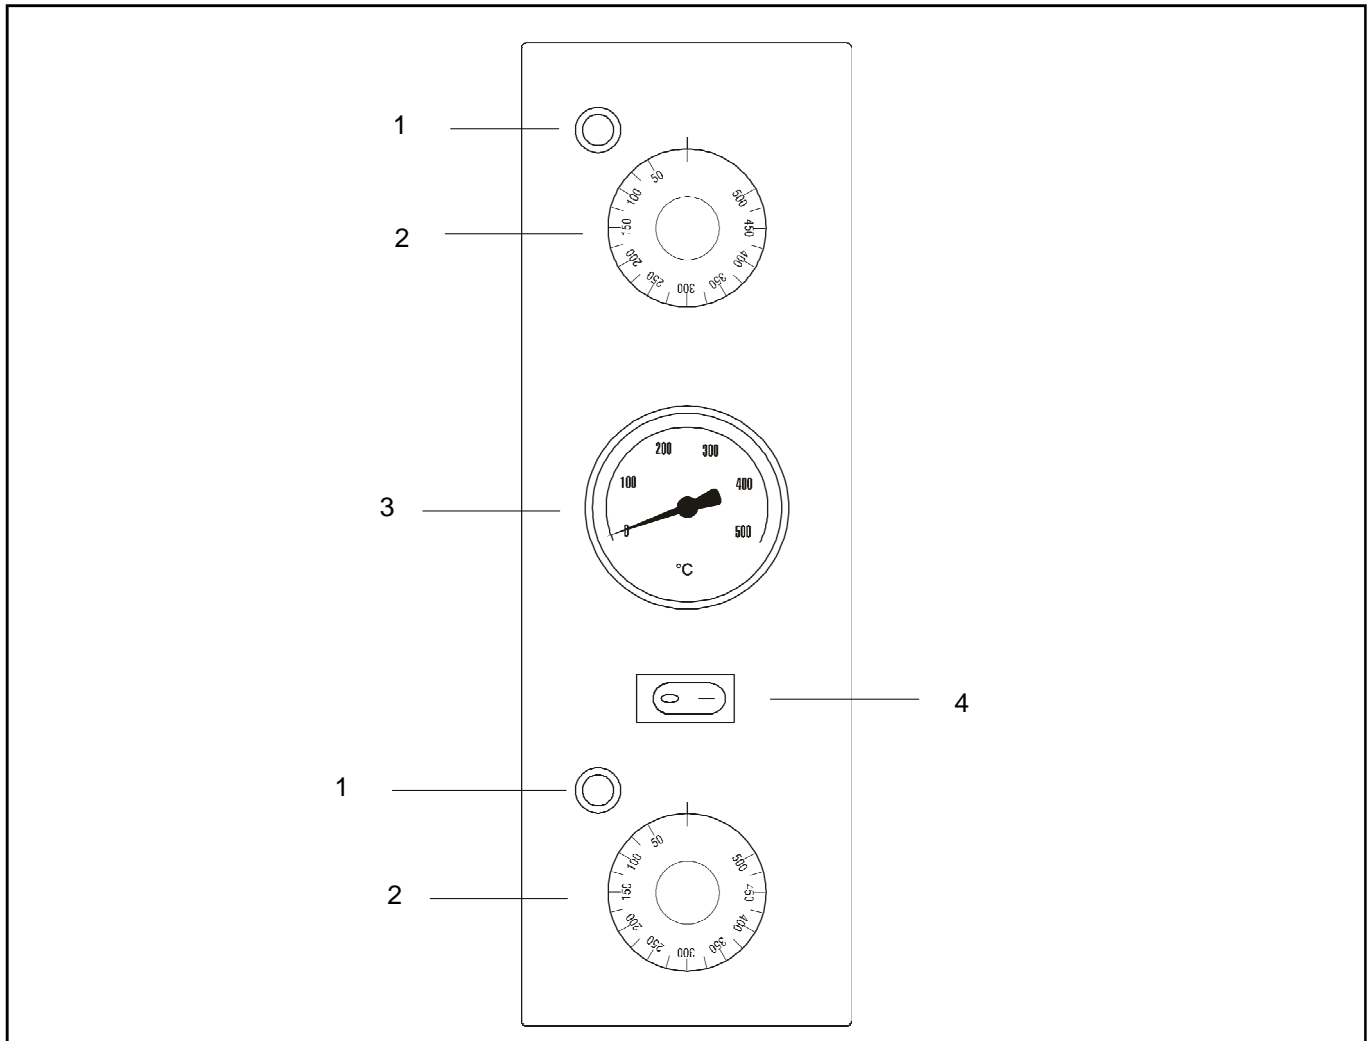

FIG.7 (Control panel)
The control panel is installed on the front side of the oven and changes according to the models as shown in **FIG. 7**.
| LEGEND FIG.7 | | |
- 3) Enable the operation of the resistors setting the thermostats (**FIG. 7-Ref. 2**) on the temperature of **150 °C** indicated on the handle. The related green warning lights signaling the operation of the resistors in use switch on;
- 5) Disable the operation of the resistors, bringing the thermostats (**FIG. 7-Ref. 2**) to **pos. "0"**;
- 7) Close the door again and repeat the operation described at point **3**) bringing the thermostats (**FIG. 7-Ref. 2**) at the temperature of **400 °C** indicated on the knob;
- 9) Disable the operation of the resistors bringing the thermostats (**FIG. 7-Ref. 2**) to **pos. "0"**;
- 3) Enable the operation of the resistors bringing the thermostats (**FIG. 7-Ref. 2**) to the wished temperature indicated on the handle. The related warning lights signaling the operation of the resistors in use will switch on;
- 4) Once the oven has reached the wished temperature (see point **9**) of this paragraph), visible on the thermometer (**FIG. 7-Ref. 4**), it is possible to insert the pizza in the oven for the backing;
- 6) To light the inside part of the backing chamber, press the oven lamp switch (**FIG. 7-Ref. 5**);
1) Turn off the oven, bringing the thermostats (FIG. 7-Ref. 2) and the resistor (FIG. 7-Ref. 3) switches to